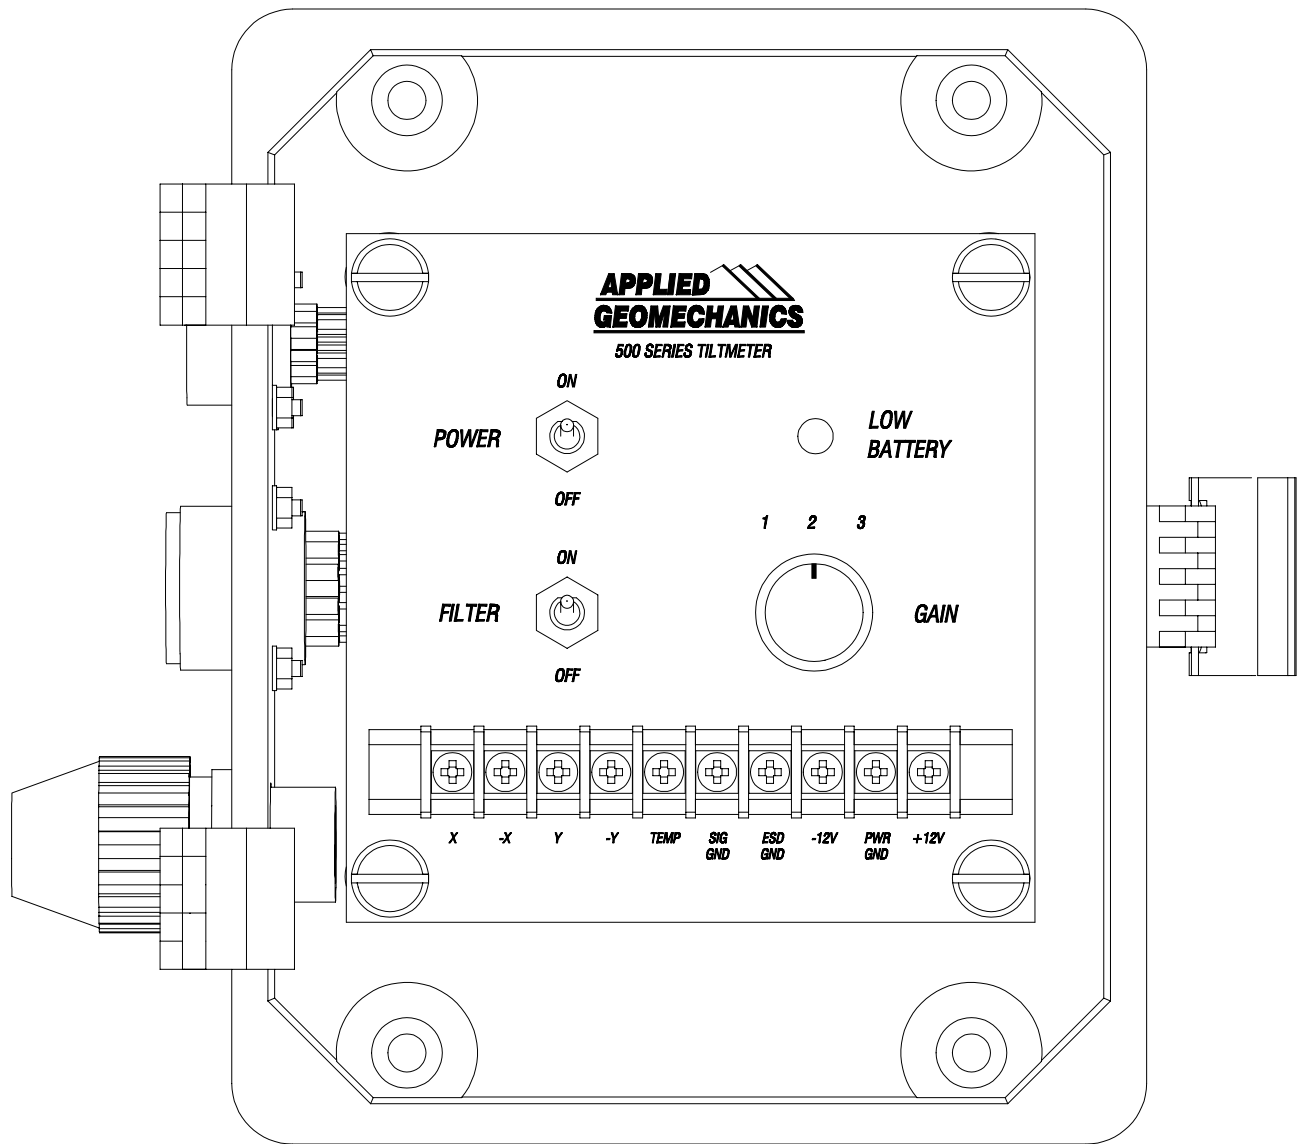
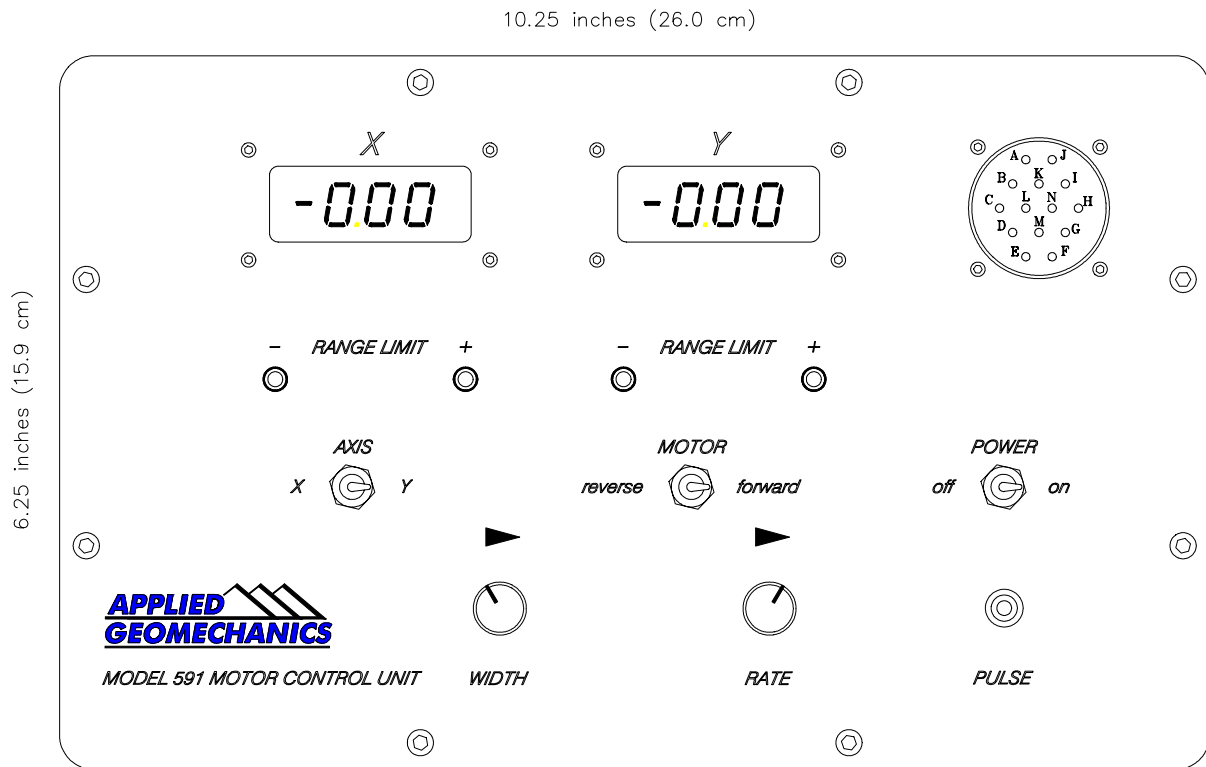

Figure 7. Inside of switch box, showing control panel
Figure 8. Control panel, Model 591 Motor Control Unit
The screw terminal strip in the switch box (Figure 7) provides connections to your external DC power supply (batteries or AC-to-DC converter) and external data recorders. Access to the terminal strip is via a feedthrough in the side of the switch box. The feedthrough contains a grommet that can be tightened against your cable by turning the nut on the outside of the feedthrough. The switch box is equipped with a hasp, which allows it to be locked for extra security. When the lid is closed, the switch box is protected from light rain and splashes. It is not waterproof and should *never* be submerged.
The Motor Control Unit warns you when you approach the end of the sensor's mechanically adjustable range. Range limit indicator lights turn on when you are near the $+7^{\circ}$ and -7° range limits (Figure 8). The range limit lights are not active in tiltmeter version 90510-03.
All of the controls and indicators you will use when operating the Model 510 tiltmeter are in the switch box (Figure 7) and in the Model 591 Motor Control Unit (Figure 8). The controls inside the switch box have the following functions:
All connections, controls and indicators are on the Model 591 control panel (Figure 8) and are described below:
2. Connect the power supply or batteries to the terminal strip in the switch box (Figures 7 and 9). The POWER switch should be OFF at this time.